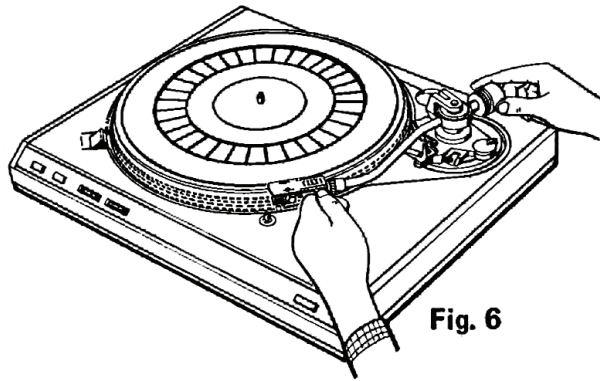

Fig. 6
- 1 With cartridge and shell installed, release the tone arm from its rest position. Hold the tone arm loosely by the tone arm lift (Fig. 6). Rotate counterweight in either direction until the tone arm starts to rise. Continue adjusting the counterweight until the tone arm floats (balanced) and is parallel to the surface of the platter.